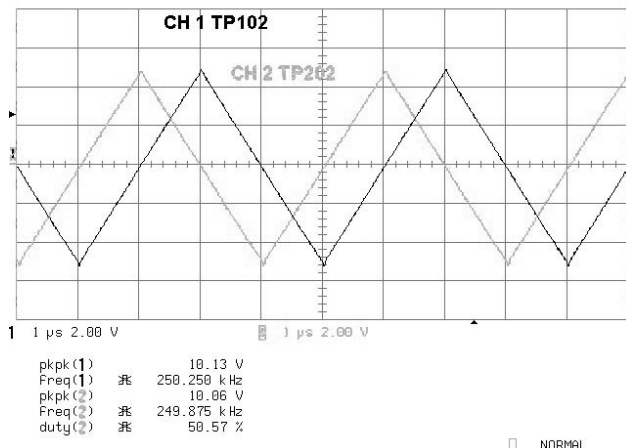

Figure 4.9 Output Signal of Triangle-Wave Generator
1. Using an oscilloscope check audio side triangle waveforms at TP102 with respect to TP105 (see Figure 4.9).
2. Using an oscilloscope check audio side triangle waveforms at TP202 with respect to TP205 (see Figure 4.9).